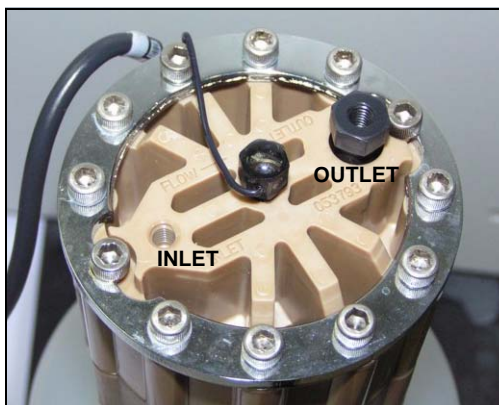

Figure 37. EluGen Cartridge Inlet and Outlet Ports
1. Orient the EluGen cartridge with the fittings facing up and remove the plugs from the EluGen cartridge **INLET** and **OUTLET** ports (see Figure 37).